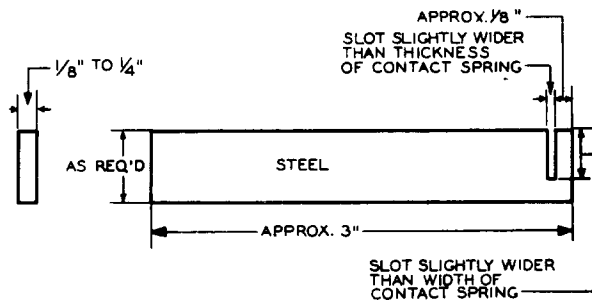
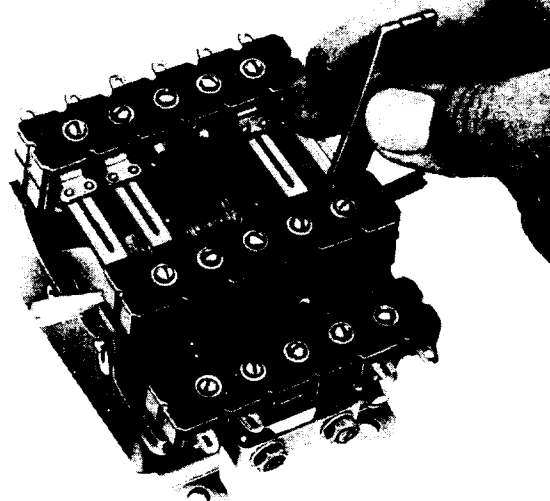
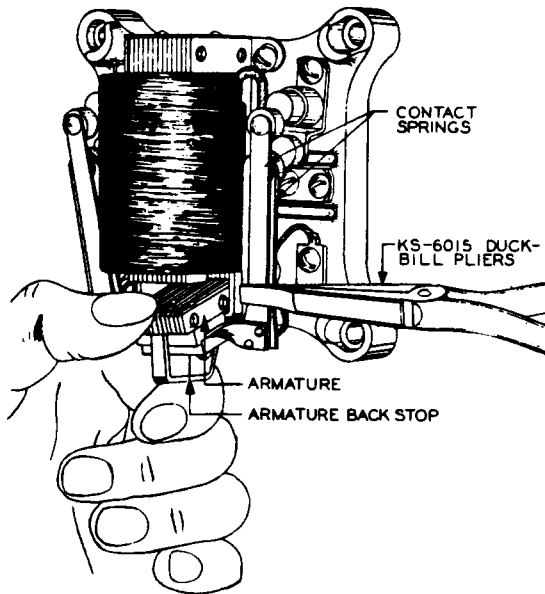

Fig. 6 - Method of Making Adjusting Tool
Fig. 7 - Method of Adjusting Contact Springs Using T-40010 or Fig. 6 Tool and Method of Blocking KS-5635 Relay Operated
Fig. 8 - Method of Adjusting for Contact Pressure and Contact Sequence
(The Signal Engineering and Manufacturing Company's T-40010 tool is suggested where a large number of split springs, other than those on KS-5635 relay, are to be adjusted or where access to springs from the side is impossible. A similar tool can be made as shown in Fig. 8 for use on KS-5635 relays and on relays not having split springs.)
(b) For this work duck-bill pliers, No. 363 tool having 0.018-inch straight slot, No. 356 tool having 1/16-inch and 0.025-inch, 90-degree slots, T-40010 tool shown in Fig. 7, or a tool made locally per Fig. 6 should be selected, depending on number, size, and location of springs to be adjusted, location of relay, and adjacent apparatus, etc. With heavy springs such as found on E-type relays, pliers must be used even if this makes removal of the relay from the panel necessary. For the
inside springs of KS-5635 relays, No. 356 tool, T-40010 tool, or a tool per Fig. 6 is preferred. For the inside spring of A-type relays, the T-40010 tool is most convenient. The use of T-40010 tool and tool per Fig. 6 is illustrated in Fig. 7.
(1) On relays not having split springs, adjust for contact sequence as required with the duck-bill pliers. To do this, place the pliers at a point about 1/4 inch from the point where the spring is riveted to the armature as shown in Fig. 8 and adjust the spring at this point, as required. When access to the springs from the side is impossible and for KS-5635 relays, follow 3.03(1)(b). When a satisfactory adjustment cannot be obtained in this manner, distribute the tension as outlined in 3.03(1). It is expected that no further adjustments will be necessary. However, on C-, D-, S-, SC-, SS-type, KS-5635, and KS-15601 relays, further adjustment can be made by changing the position of the stationary contacts as outlined in 3.03(2). If any adjustments are made, recheck alignment (2.03).
(2) Normally Open Contacts: While checking pressure on NO contacts the relay must be held or blocked operated. The KS-5635 relay can be blocked operated with a small wedge on each side of the armature, as shown in Fig. 7. If the pressure between contacts is not satisfactory, hold the armature against the backstop and increase the tension of the spring, adjusting it towards the contact by applying the KS-6015 duck-bill pliers close to the riveted base of the spring, as shown in Fig. 8. In adjusting the springs, exercise care not to twist them, since this will prevent the contacts from resting flat against each other. When access to the springs from the side is impossible, follow 3.03(1)(b). If the spring is bowed or bent, follow 3.03(1). If a satisfactory adjustment of split contacts cannot be obtained as outlined above, make further adjustments in accordance with 3.04(2). On KS-5635 and KS-15601 relays a further adjustment can be made as outlined in 3.06(5). If any adjustments are made, recheck alignment (2.03) and sequence (2.04).
(3) Normally Closed Contacts: Checking and adjustment of pressure on NC contacts must be made after the adjustment of the NO contacts, and if bending or other change of the contact springs is necessary during adjustment of NC contacts, recheck NO contact pressure (2.05), alignment (2.03), and sequence (2.04). The contact pressure between NC contacts should be measured after electrical release of the relay. If it is not convenient to do this, operate the relay manually and then release it, allowing the movable contacts to spring back against the stationary NC contacts so as to simulate electrical release and contact pressure under operating conditions. If the pressure between NC contacts is not satisfactory and the